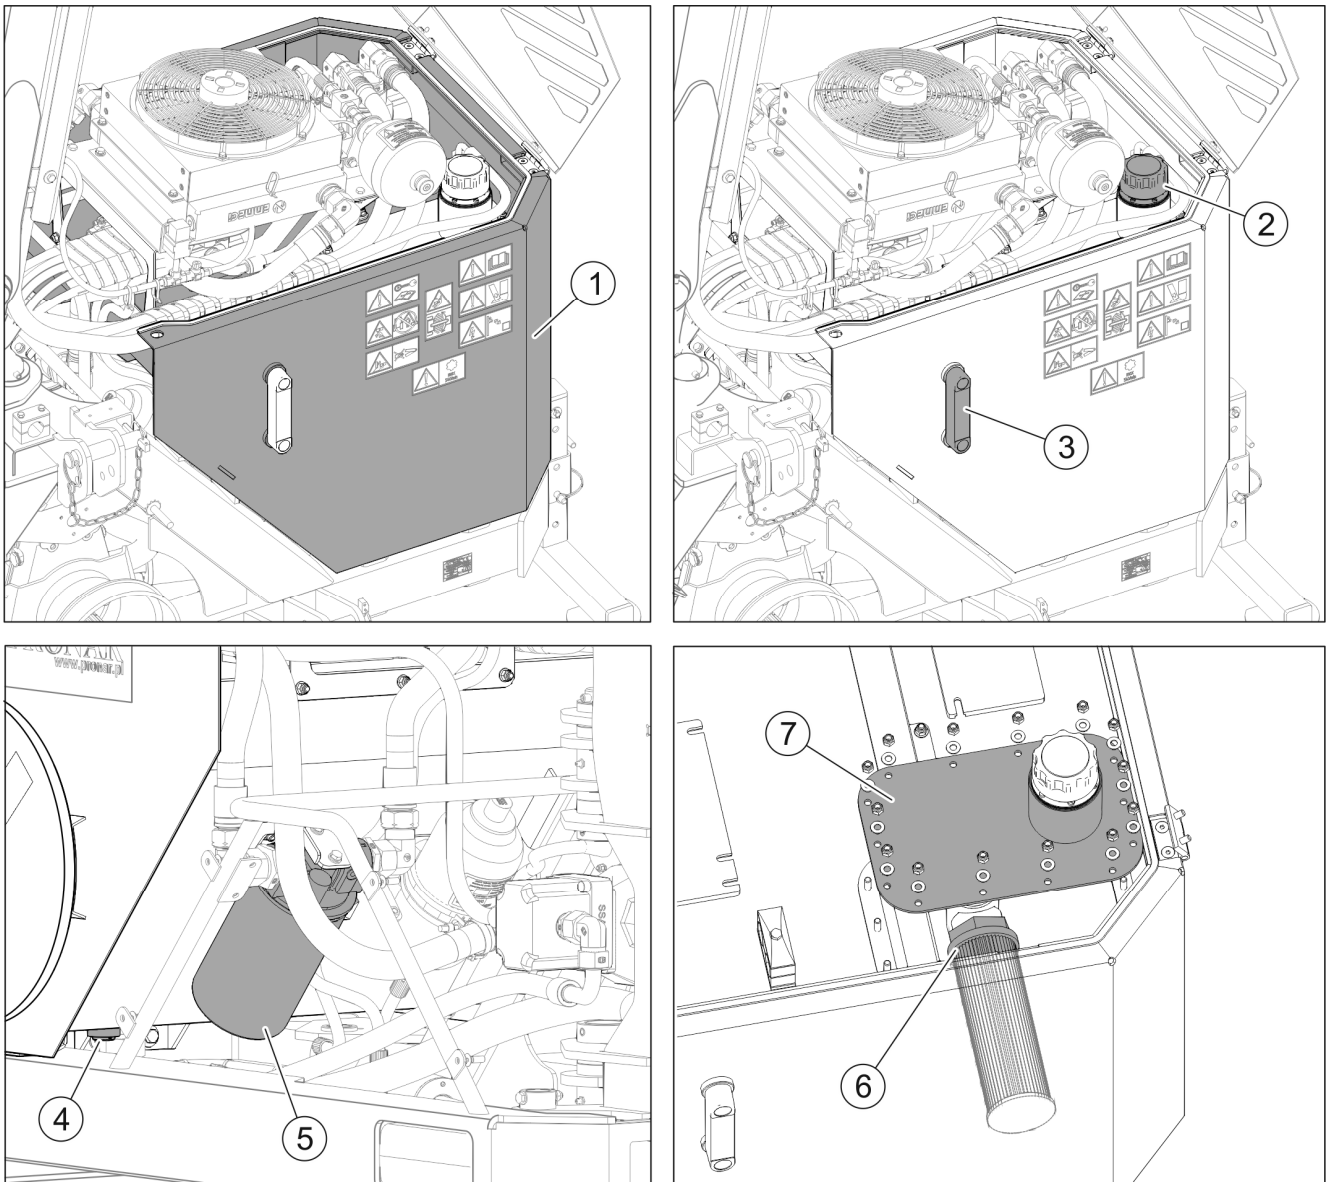

FIGURE 5.1 Oil tank
The oil tank (1) (FIGURE 5.1) holds 180 l of hydraulic oil type HL46. Check tank welded joints and hydraulic hoses for leaks every day.